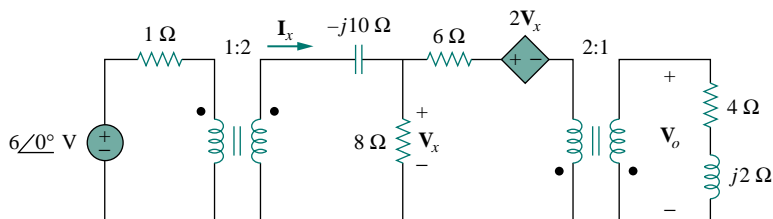

Figure 13.127 For Prob. 13.64.
- 13.64** Find I_x and V_x in the circuit of Fig. 13.127 below using *PSpice*.